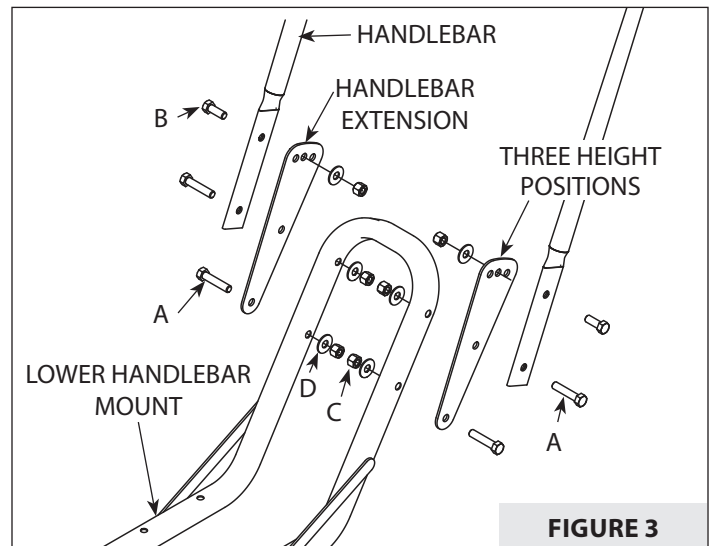

FIGURE 3
6. Locate the handlebar extensions and place them on the outside of the lower handlebar mount. Be sure to line up the handlebar extension pieces with the lower handlebar mount as shown. **SEE FIGURE 3.**
7. Insert one (A) M10 x 45 mm bolt into each of the lower holes in the side of the extension pieces. The bolts will pass through the lower hole of the lower handle bar mount. Place a (D) M10 flat washer and a (C) M10 nylock nut onto the end of each bolt and hand-tighten. **SEE FIGURE 3.**
8. Assemble the handlebar to the **outside** of the handlebar extension (side opposite the lower handlebar mount). Insert one (A) M10 x 45 mm bolt into each of the lower holes in the handlebar and through the **middle** hole on the handlebar extension. Place a (D) M10 flat washer and a (C) M10 nylock nut onto the end of each bolt and hand-tighten. **SEE FIGURE 3.**
9. Insert one (B) M10 x 25 mm bolt into each top hole on the handlebar and through one of the three holes on the handlebar extension according to desired handlebar height. Place a (D) M10 flat washer and a (C) M10 nylock nut onto the end of each bolt and hand-tighten. **SEE FIGURE 3.**